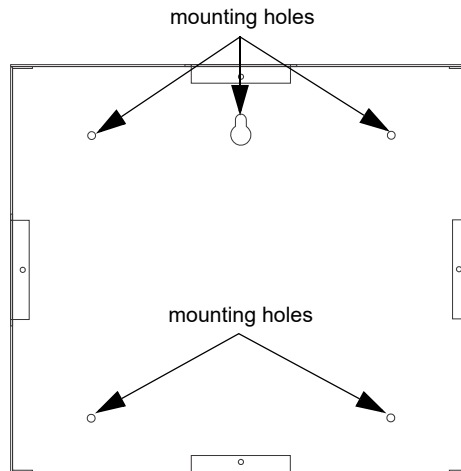

Figure 4.14 RA-100 Backbox Mounting
2. Mark and pre-drill hole in the wall for the center top keyhole mounting bolt. Refer to Figure 4.14 for mounting hole locations.